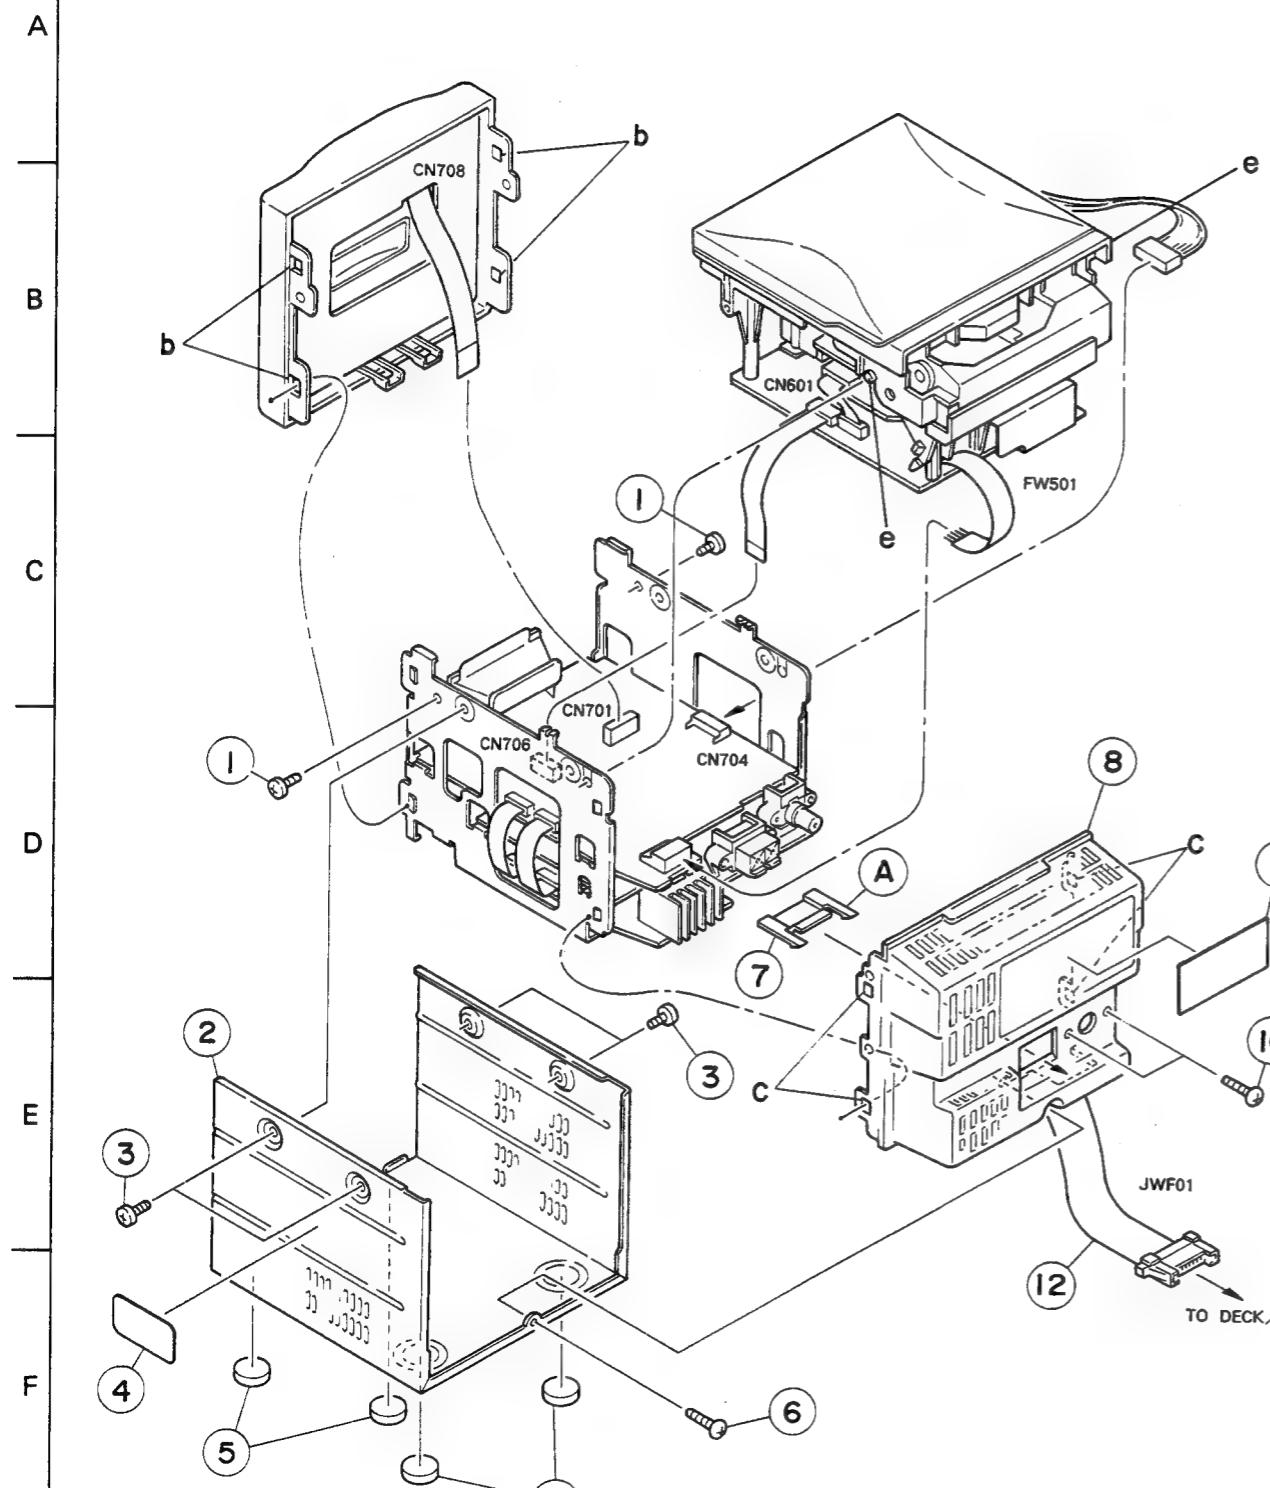

Fig. 7-8
• Metal Cover (Fig. 7-8)
1. Remove the four screws ③ retaining the metal cover from the body.
2. Remove the one screw ⑥ retaining the metal cover from the back surface of the body.
• Front Panel Ass'y (Fig. 7-8)
• CD Player Ass'y (Fig. 7-8 ~ 11)
1. After turning the body upside down, insert a minus screw driver into the hole ④ engaging the system wire inserting wire holder and the rear cover, and disengage the holder and cover. Then, dismount the wire holder while pulling it out.
2. Remove the two screws ⑩ retaining the rear panel from the body.
3. After inserting a minus screw driver between the four engagement points ⑤ fixing the rear cover, release the engagements and separate the rear cover from the body.
4. After inserting a minus screw driver between the front panel and chassis, release the four engagement points ⑥ fixing the front panel ass'y, and separate the front panel ass'y from the body.
5. Remove the two screws ① retaining both sides of the CD player ass'y from the chassis.
6. After expanding the right and left sides of the chassis outward, release the right and left engagements ⑦ of the CD player ass'y and chassis, and separate the CD player ass'y from the body.
■ Analytic Drawing (3): Block No. M 3**■ Disassembly of CD Player Ass'y and Front Panel Ass'y****• Metal Cover (Fig. 7-8)**
6. After expanding the right and left sides of the chassis outward, release the right and left engagements ⑨ of the CD player ass'y and chassis, and separate the CD player ass'y from the body.